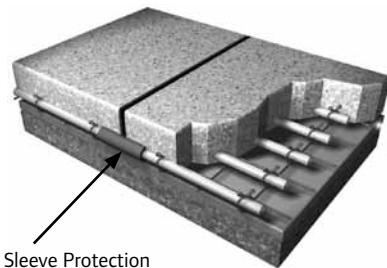

Figure 5-1: Sleeve Protection
- If the piping runs through an expansion joint, protect with a sleeve or dip below the joint. See **Figures 5-1 and 5-2**.